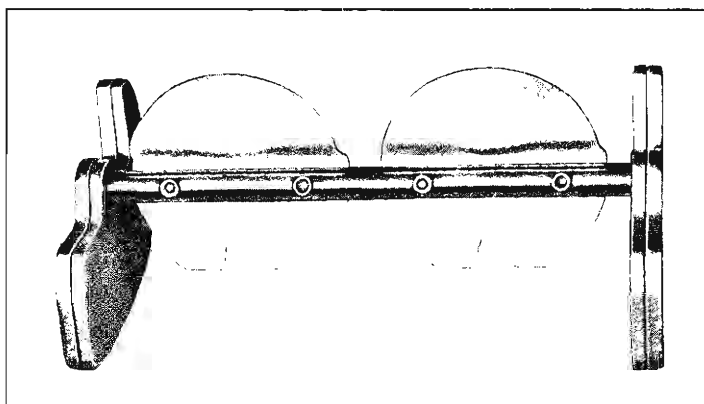
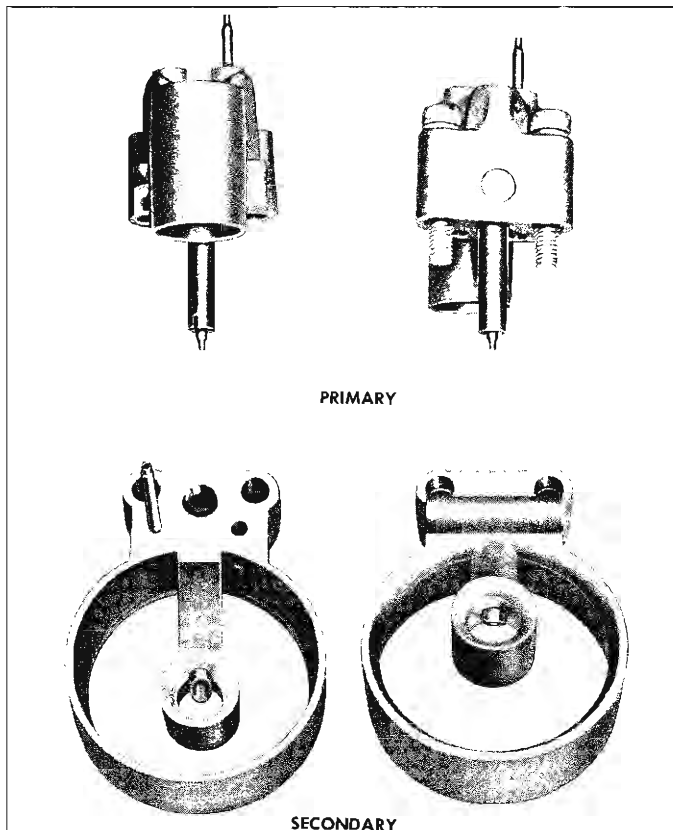

Fig. 30—Auxiliary Valve Assembly
Fig. 31—Venturi Identification
7. Install auxiliary valve assembly with screw heads down (fig. 30). Then install secondary and primary venturi assemblies, using new gaskets (fig. 31).